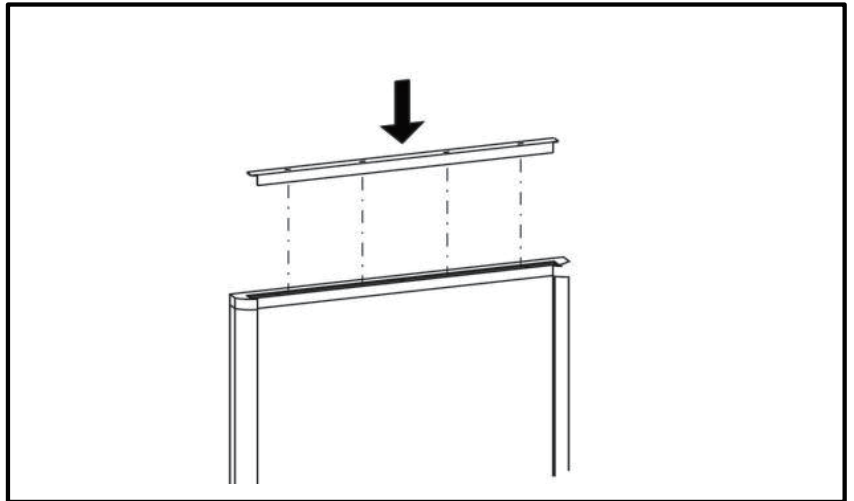

FIG 14
4. Insert the new panel into the grooves of the door frame. Push the panel downwards so that the lower horizontal edge of the panel is fitted into the bottom groove. See FIG 14